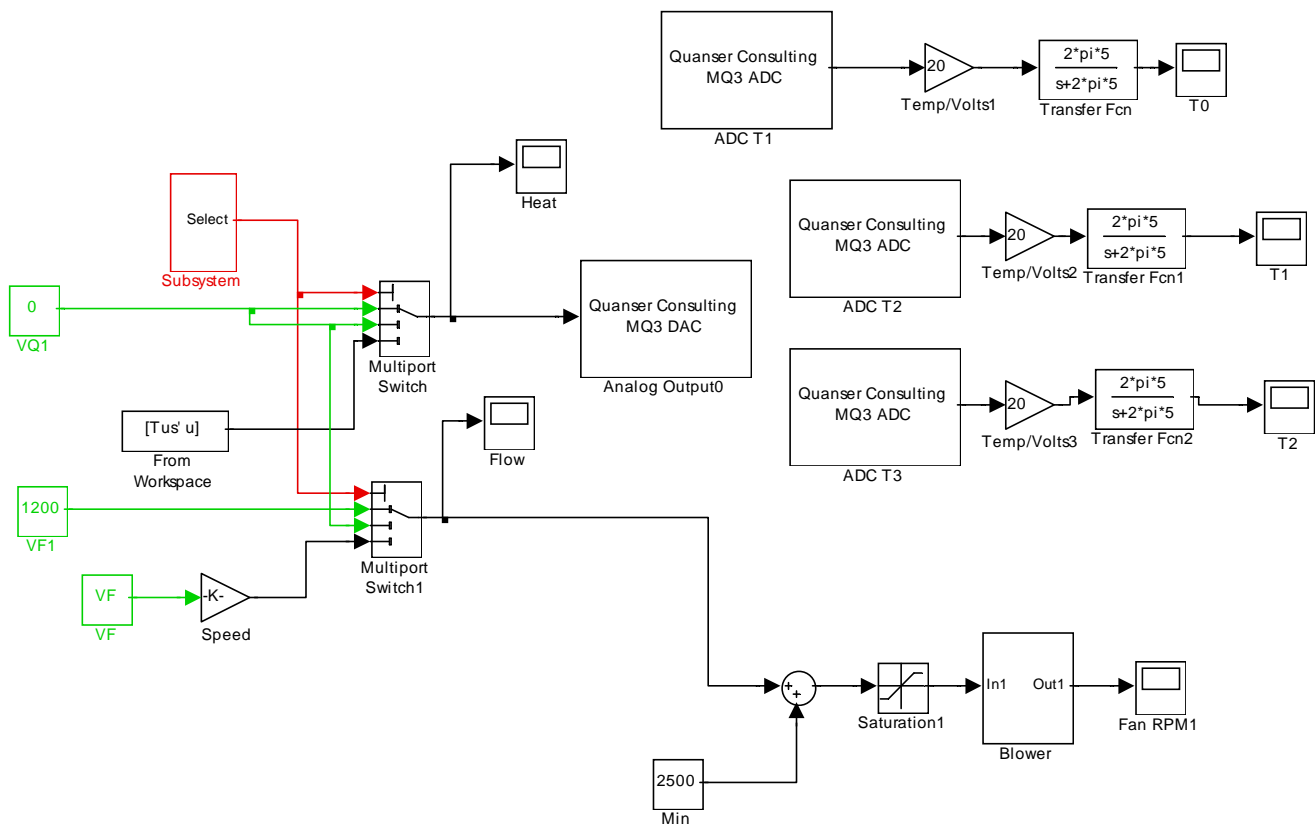

Figure 2 Simulink model to apply random inputs and collect data.
- In Matlab type **random_input** - This opens the simulink model shown in Figure 2